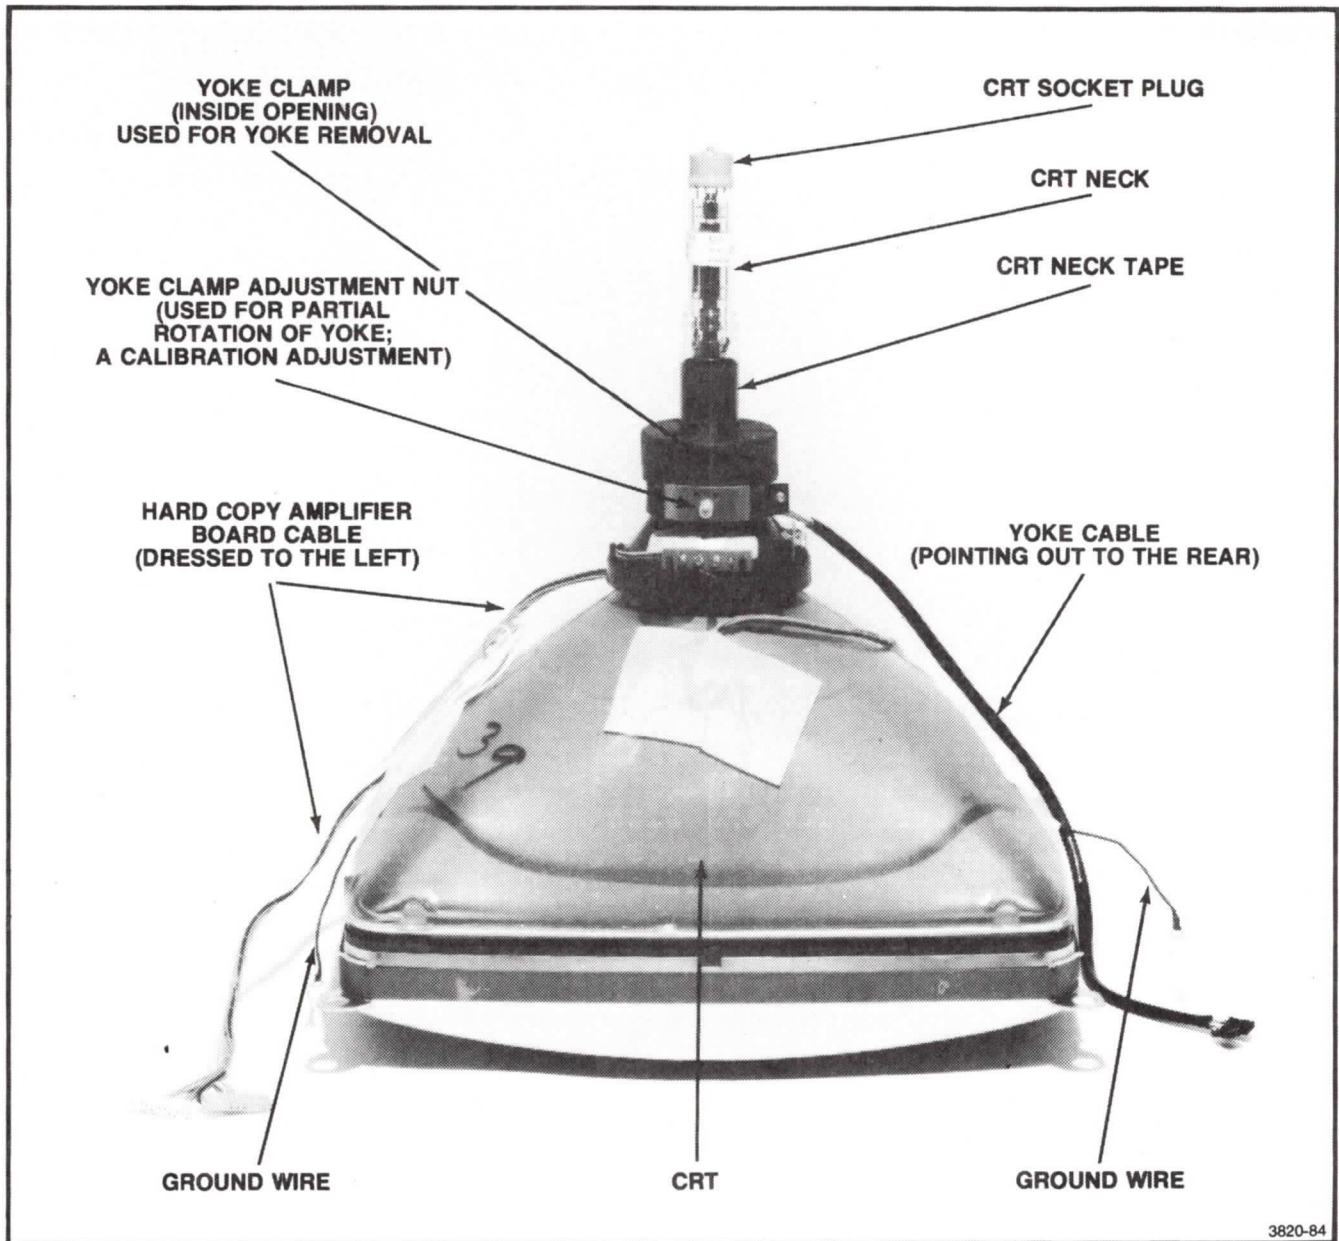

Figure 11-6. Crt and Yoke Assembly.
14. Remove the yoke assembly by loosening the the top screw -- inside cover -- and slightly speading the clamp while lifting the yoke off the crt. (See Figure 11-6.)
17. Place the yoke on the crt neck with the yoke cable in the rear, the adjustment nut in the front, and the clamp screw on the right. (See Figure 11-6.)
19. Tighten the top clamp screw on the yoke assembly. (See Figure 11-6.)
3. Loosen the yoke assembly by loosening the top screw (inside cover). Rotate the yoke 180 degrees and tighten the top screw (inside cover). Refer to Figure 11-6 for the location of this screw.